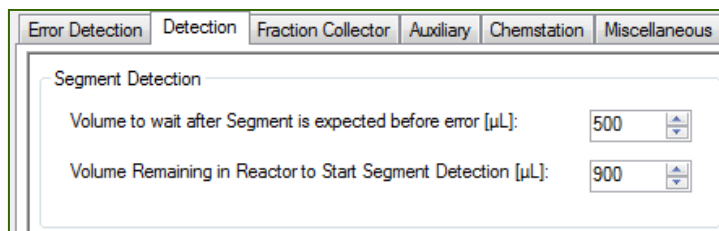
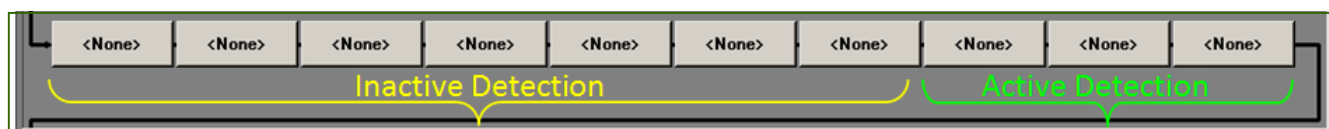
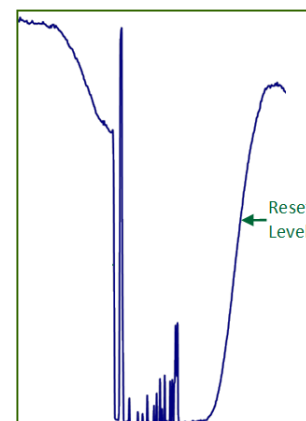

Figure 6 - Conjure Detection Active Volumes
Figure 7 - Conjure Detection Active Blocks
Figure 8 - Reset Value
Unlike the Propel, the Conjure has a more sophisticated segment tracking database that allows the user to maximum throughput by setting two detection values related to when the Conjure begins and ends detection. Both these settings are in volume units ( $\mu\text{L}$ ) and located in the *Conjure Control > System Settings > Detection Tab* (Figure 6). These values are used as illustrated in Figure 7, where the last 3 Reactor Progress blocks on the Conjure Control > Overview Tab indicate the volume remaining within the reactor in which the Detection System begins tracking for a segment.
**IMPORTANT!** When the segment transitions from the Inactive Detection progress blocks (Figure 7) to the Active Detection blocks (last 3), a system **Detect Reset** command is sent to the Reactor application. Even though the system may be in Active Detection, actual detection will not begin until the UV Value is above the **Reset Value** (Figure 8). If the Reset Value is not reached, which is often due to the set value being too high, then the subsequent segment will not be detected, sampled or collected.